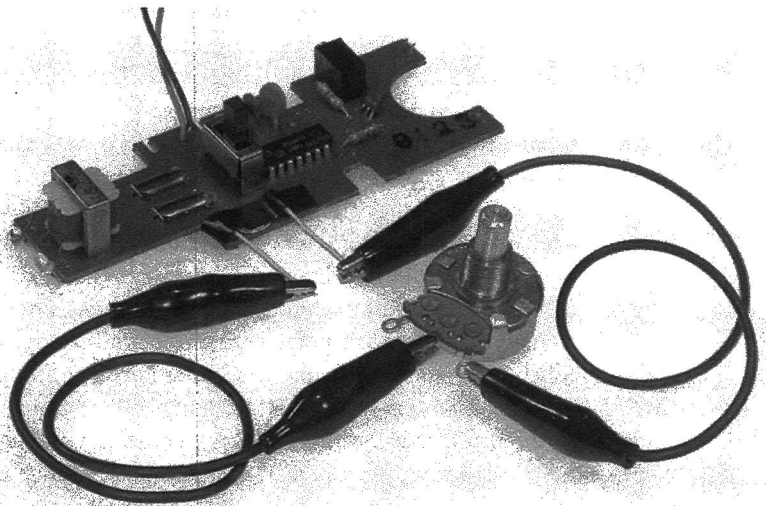

Figure 13.6
Remove the resistor from the clip leads attached to the whiskers on your circuit board. Clip the free end of one of the leads to the center terminal (B) of your pot, and clip the other to the end terminal C (see Figure 13.6). Rotate the pot and listen. The circuit will probably crash if you raise the pitch past a certain point and you’ll have to restart it (see Rule #12, above). But as long as you stay below that point in the pot’s rotation you should be able to coax a